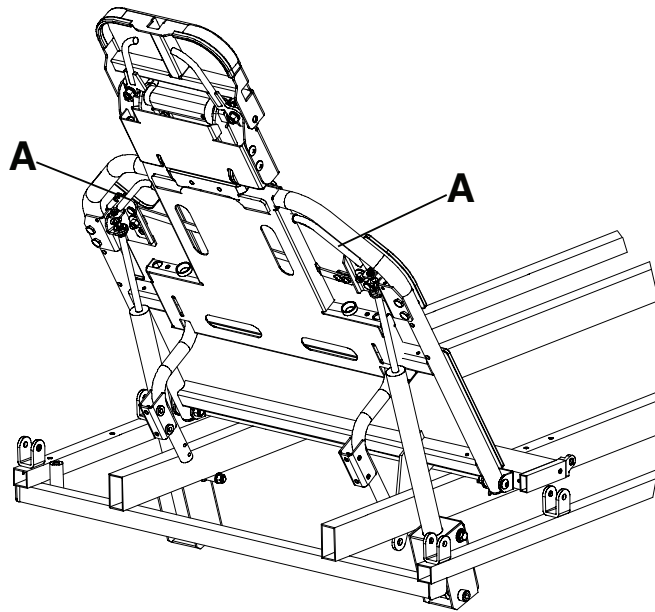

Figure 3 – Fowler backrest
To raise the Fowler backrest, squeeze the Fowler release handles (A) and pull the Fowler backrest up to the desired position (Figure 3).
To lower the Fowler backrest, squeeze the Fowler release handles (A) and push the Fowler backrest down to the desired position (Figure 3).